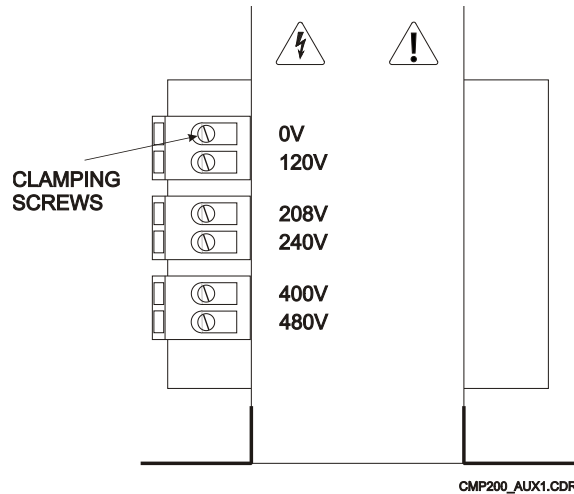

Figure 2-16: Auxiliary transformer, terminal view
3. Note the line-voltage tap position on this transformer as determined by the location of the wire on the 208 V or the 240 V tap on the transformer primary. This is normally set to the 240 V tap. Refer to Figure 2-16.
3. Note the line-voltage tap position on this transformer as determined by the location of the wire on the 400V or the 480V tap on the transformer primary. This is set to the 400 or 480V tap to match the line voltage specified at the time of the order. Refer to Figure 2-16.